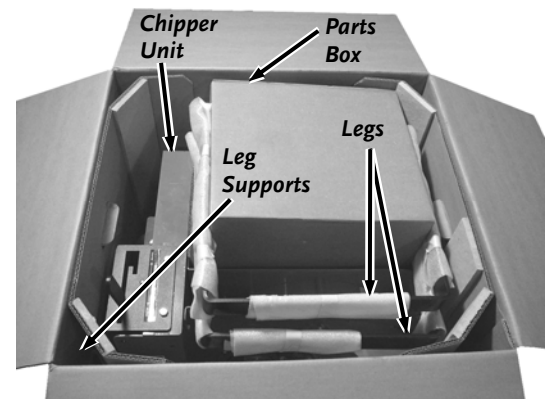

Figure 3
3. Open the Box Flaps and remove the Parts Box, Legs and Leg Supports (standing up in the corner of the Box) (**Figure 3**).